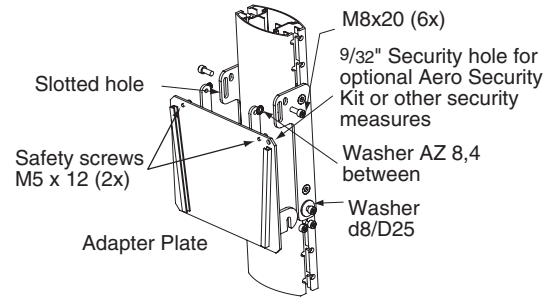
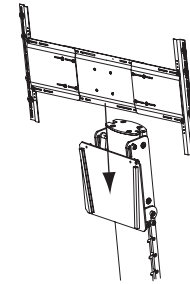

Figure 3
Figure 4
- ⑥ Hook adapter plate onto M8 x 20 screws on side fittings. Make sure washers are tight against the fittings. Fasten screws, making sure that washers are between the plates (see Fig. 3).
- ⑦ PLEASE NOTE: This step requires two people. Attach universal of plasma-specific bracket to back of plasma display (see Fig. 4). Hook display with bracket onto the adapter plate. Tilt monitor to desired position and re-tighten all screws. Lock the plasma bracket by turning the M5 x 10 screws toward the display. Cover the bolt heads with plastic covers (see Fig. 3).